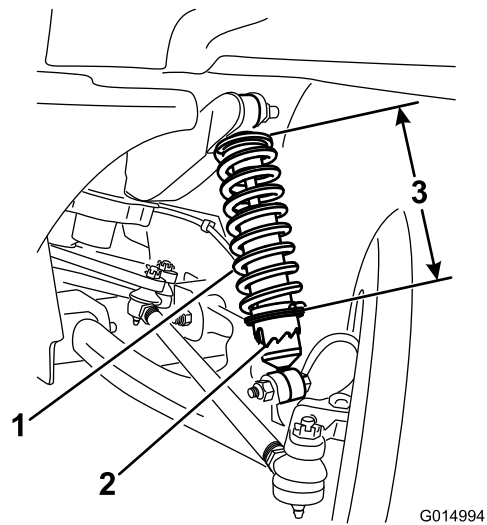

Figure 61
3. Using tool TORO 6010, rotate the collar on the shock absorber to change the length of the spring (Figure 61).